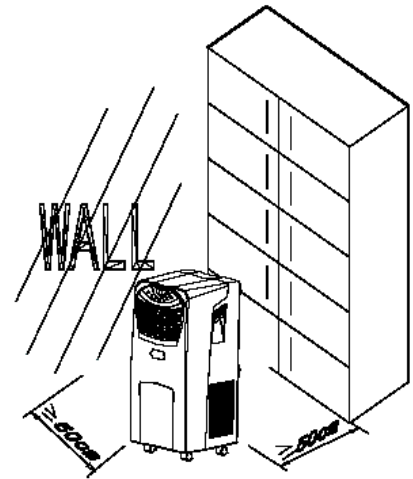

Fig. 1
- Leave at least 50cm space around the unit (Fig. 1).